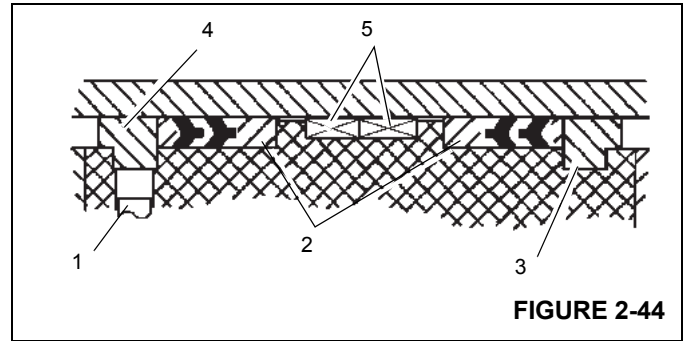

FIGURE 2-44
10. Install the guide lock rings, hydrolock seals and wear rings onto the outside of the piston Figure 2-44. Refer to the figure titled.